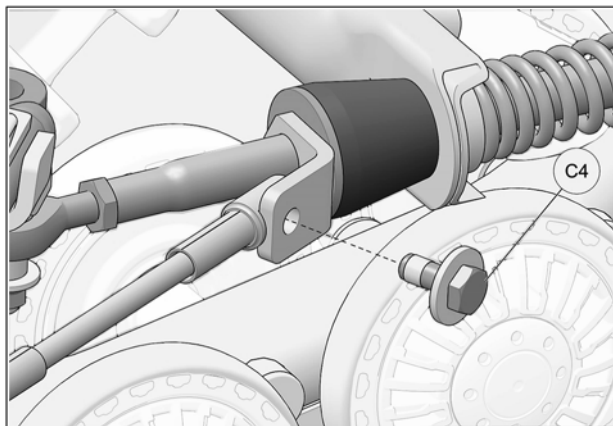

Fig. 22
16. Reverse steering wheel a little to be able to bolt support plate and cable together. Tighten provided bolt (C4) to 35 N•m [24 lb•ft]. See Fig. 22. Repeat steps on right side.